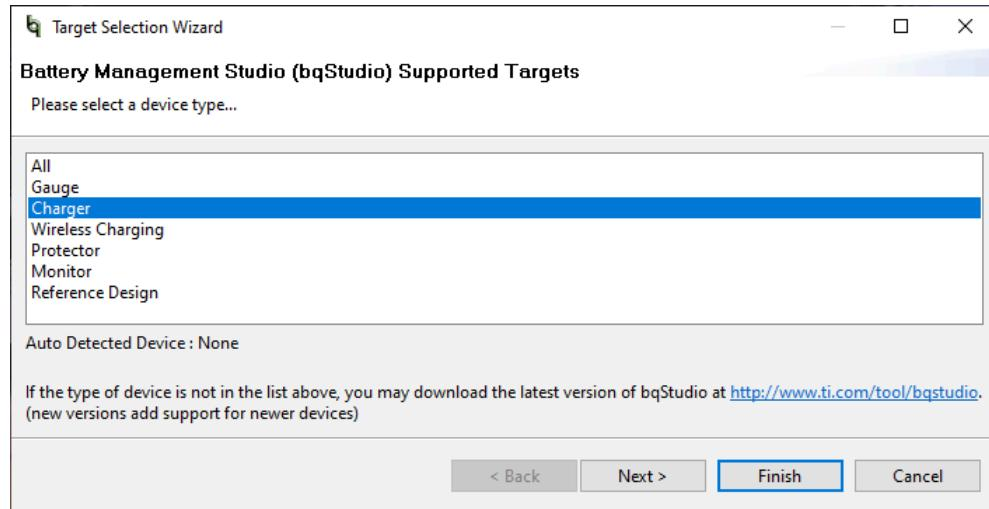

**Figure 2-1. Test Setup for BQ25620EVM and BQ25622EVM**
- Turn on Load #1, set to constant voltage mode, and output to 2.5-V. Disable Load. Connect Load in series with a current meter (multimeter), ground side, to J4 (BAT and PGND) as shown in Figure 2-1 in not using a source meter with current measuring capabilities.
- Connect a voltage meter across TP13 (BAT) and TP30 (PGND), or across J4-3 and J4-1 as in Figure 2-1
- Connect a voltage meter across TP14 (SYS) and TP30 (PGND), or across J2-1 and J2-2 as in Figure 2-1
- Connect a voltage meter across TP12 (PMID) or TP11 (VPB) and TP32 (PGND), or across J3-1 and J3-2 as in Figure 2-1
- Connect the EV2400 USB interface board to the computer with a USB cable and from I2C port to J5 with the 4-pin cable as in Figure 2-1
- Install shunts as shown in Table 1-3. Note that the shunts in Figure 2-1 are not necessarily installed per the table.